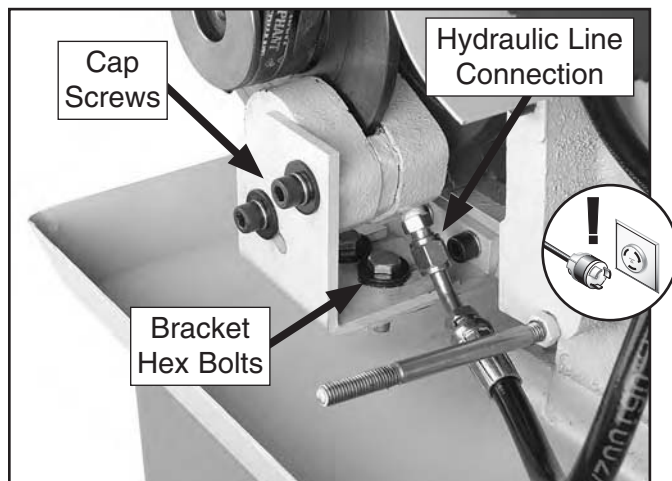

Figure 132. Brake caliper connections.
4. Place a container under the caliper hydraulic line connection (see **Figure 132**), then remove the line from the caliper and quickly plug it to prevent the fluid leaking from the system.
5. Remove the two caliper mounting cap screws and bracket hex bolts shown in **Figure 132**, then, as you remove the caliper bracket, also remove the caliper from the rotor.